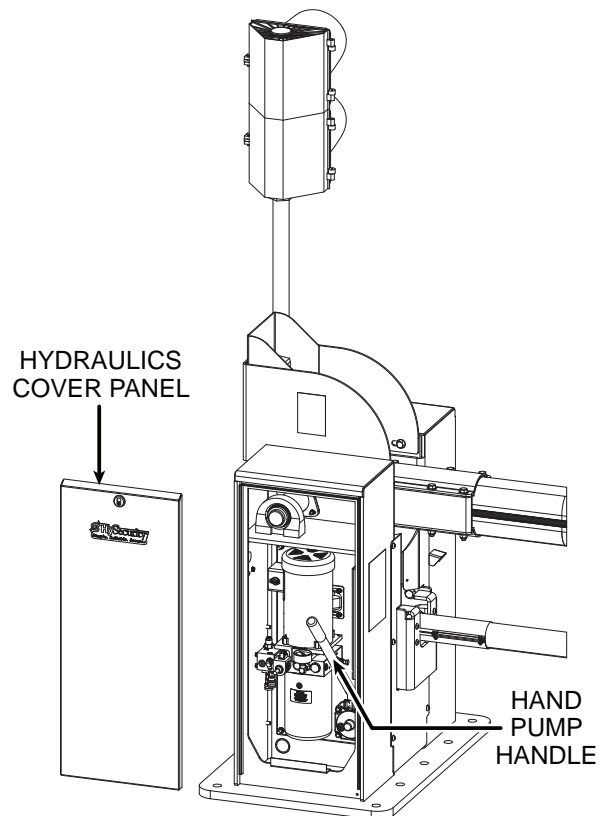

Figure 35. Hydraulic Hand Pump Open
2. Locate the hand pump and place the handle on its stub. See Figure 35.
2. Place the handle on the manual hand pump, check that the knurled knob is in the closed position. Begin pumping the handle up and down. See Figure 35.